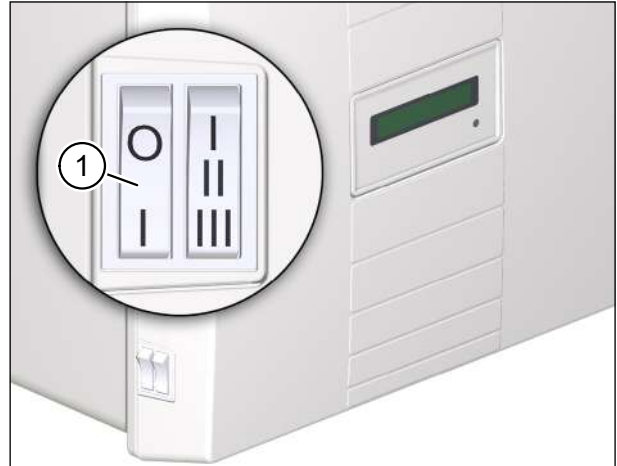
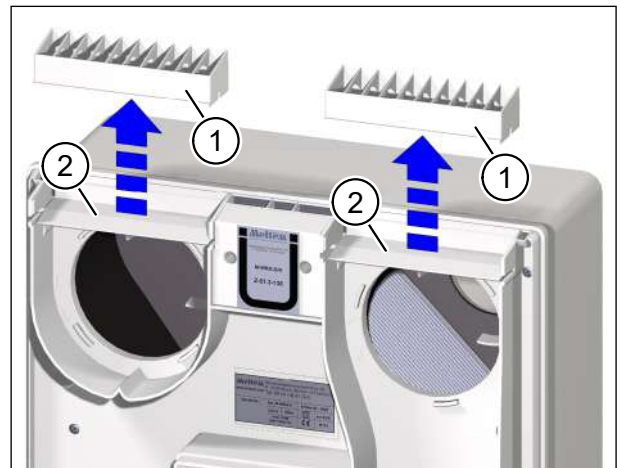

Fig. 3: Switch ventilation unit off at mains switch
Fig. 8: Remove and clean both air flap frames
- ▶ Always switch the ventilation unit off at the mains switch (item 1 in Fig. 3) for the filter change. On ventilation units with the M-WRG-O/NOF option, power to the unit must be switched off using the building's miniature circuit breaker. Otherwise the open air flaps (see item 2 in Fig. 8 on page 13) will make it impossible to remove and insert the filter cartridges.
- ▶ Carefully pull the two air flap frames (item 1 in Fig. 8) up and out of the ventilation unit.
Do not remove the air flaps (item 2 in Fig. 8) from the ventilation unit.
- ▶ Clean the two air flaps (item 2 in Fig. 8) with a damp cloth and mild soapy water.
- ▶ Switch the ventilation unit on at the mains switch (item 1 in Fig. 3 on page 11).